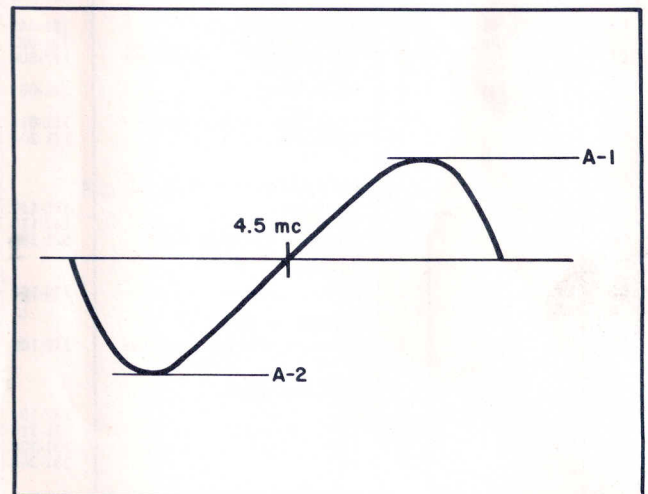

Fig. 5 Discriminator Response.
- Adjust discriminator transformer for the response shown in fig. 5.